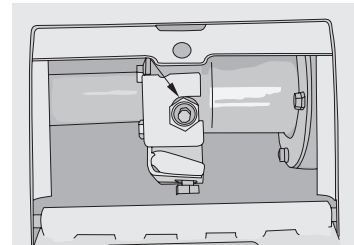

Figure 4-25
3. Oil cylinder for idler tension (Figure 4-25) (2 places)